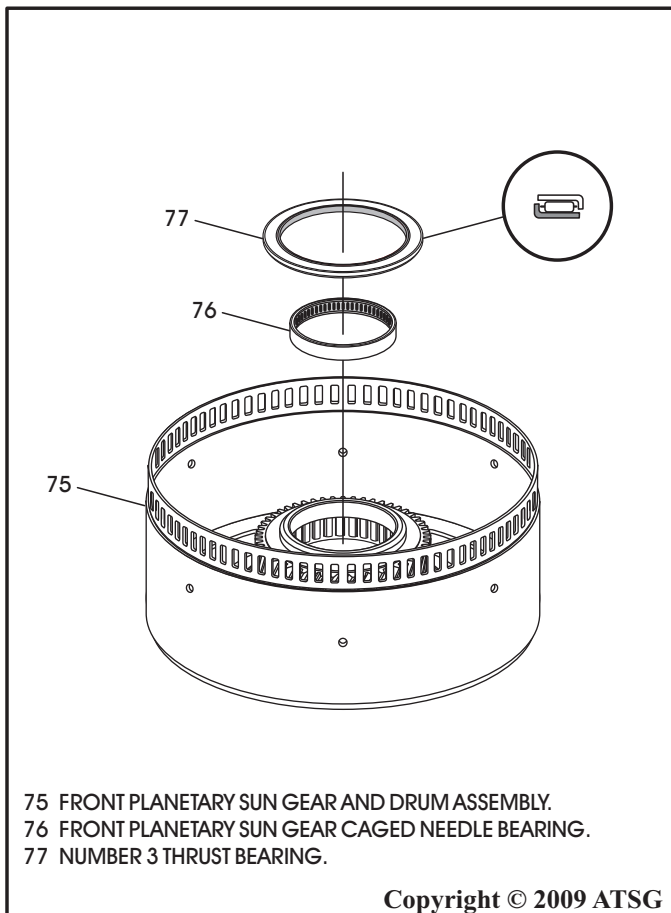

Figure 108
7. Replace caged needle bearing as necessary, as shown in Figure 108, using the proper driver.
8. Install number 3 thrust bearing in the direction shown in Figure 108, and retain with a small amount of Trans-Jel®.